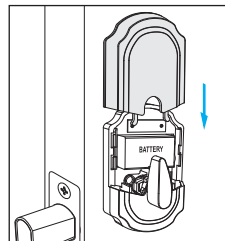

Fig. 13
**Step 7.** Slide down the compartment cover to complete the installation (Fig. 13).